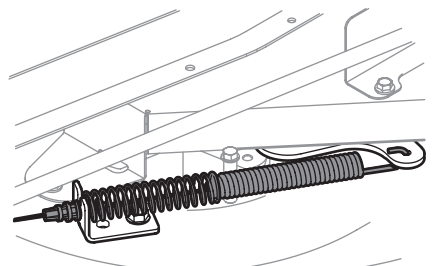

Figure 33
8. Carefully remove the PTO cable from the rear of the cutting deck. Remove the spring from the deck idler bracket. See Figure 33.